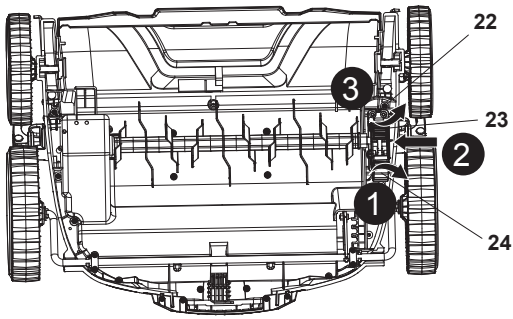

Fig. 7
2. Disengage the locking lever (24) by pulling it upwards, then press down the locking button (23) and rotate the cutting tool holder (22) to release the cutting tool (Fig. 7, steps 1, 2, 3).